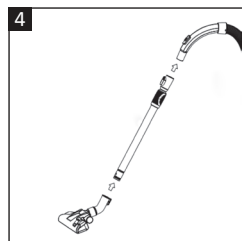

Fig. 4
- Insert the handle of the suction hose (7) into the upper end of the telescopic tube (19) and push the handle firmly until it locks into place (**Fig. 4**).
- Insert the lower end of the telescopic tube (19) into the cleaning tool (16, 18, 19 or 20) and push the tube firmly until it locks into place (**Fig. 4**). Twist the tube slightly for easier insertion if necessary.